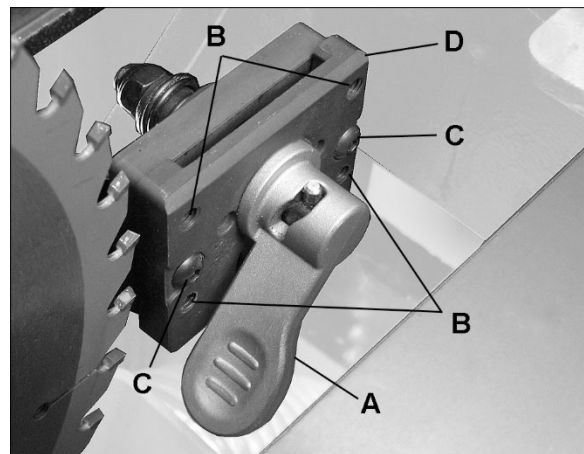

Figure 8-7
4. Pull up lever (A, Figure 8-7) and remove riving knife, making note as to which direction riving knife needs to be moved to align it with saw blade.
5. Use 3mm hex key to make adjustments to four set screws (B, Figure 8-7). Adjust any of the set screws required to bring riving knife in alignment with saw blade.
6. Reinsert riving knife, secure by tightening lever (A) and check alignment per step 2.
- Use 3mm hex key to loosen two socket head button screws (C, Figure 8-7). This will allow the clamp plate (D) to slide back and forth on the fixed base.